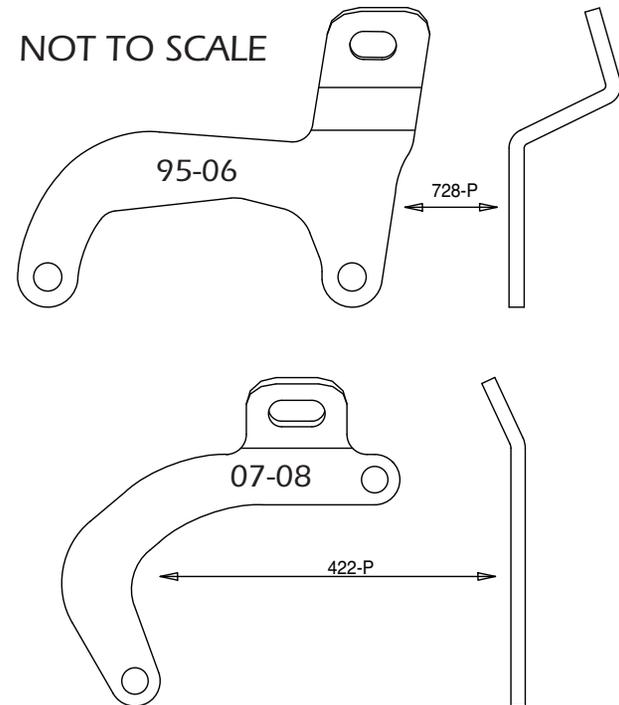
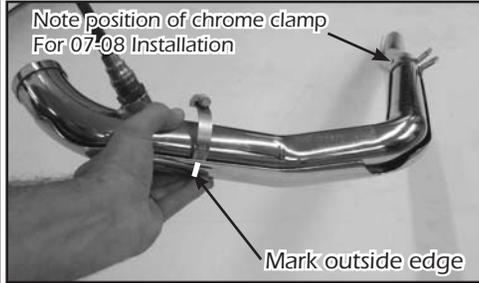

FIGURE 4
FIGURE 5
- Late Models 07-08:** Slide the chrome clamp (supplied) onto the front head pipe (D450FC) (supplied) so it sits near its installed position (Figure 4 & 5).
5. Lay the rear head pipe (D451FC) into the heat shield and install each hose clamp by feeding tail end of clamps into heat shield clips. (Figure 4) Take note of location of clamp screw head direction (Figure 5) (screw head must be accessible when system is installed for adjustment purposes).